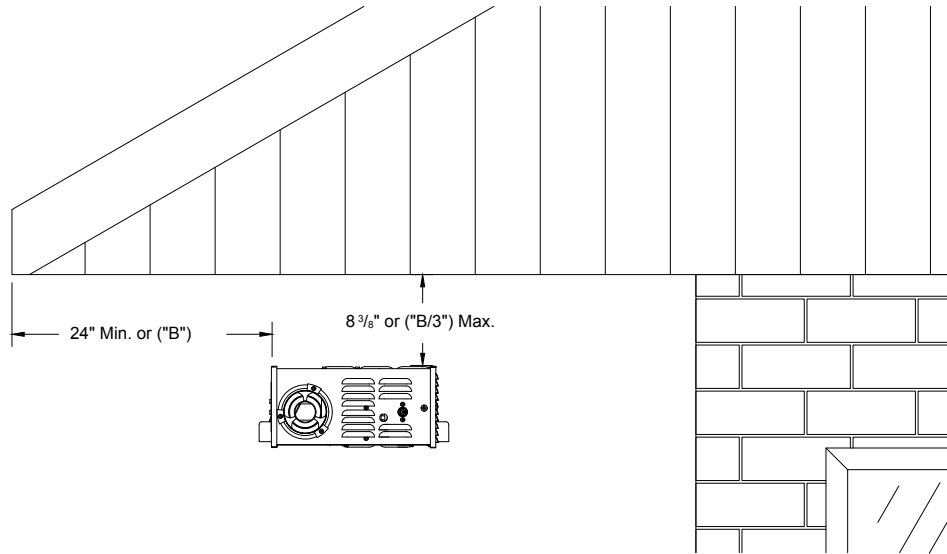
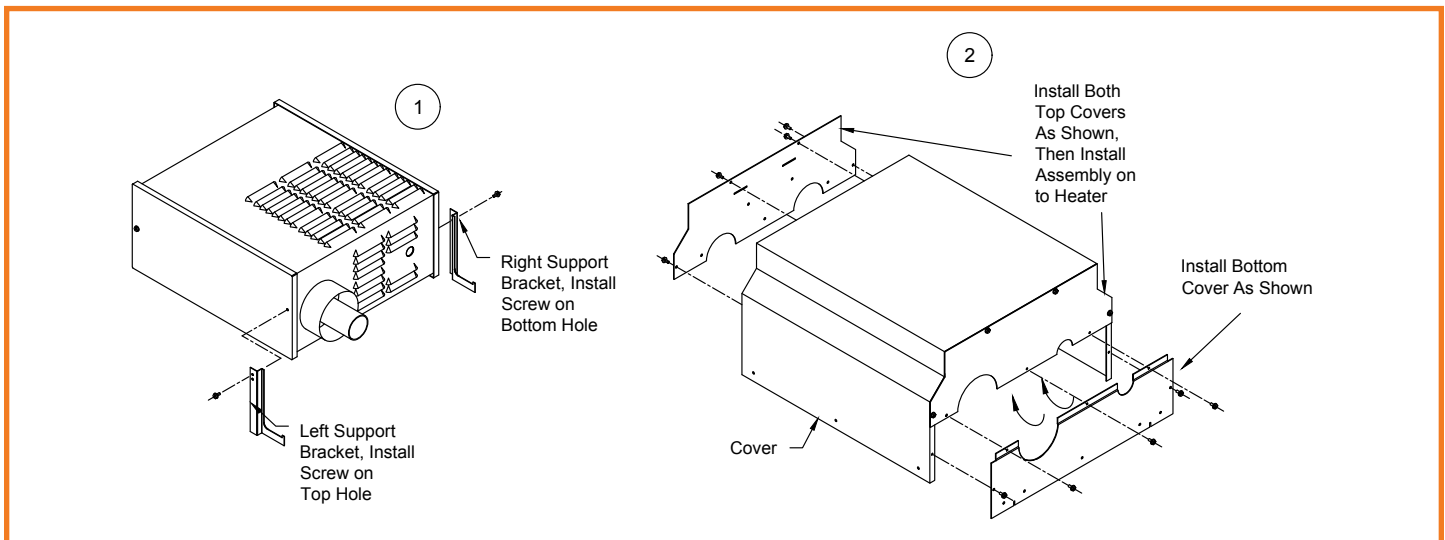
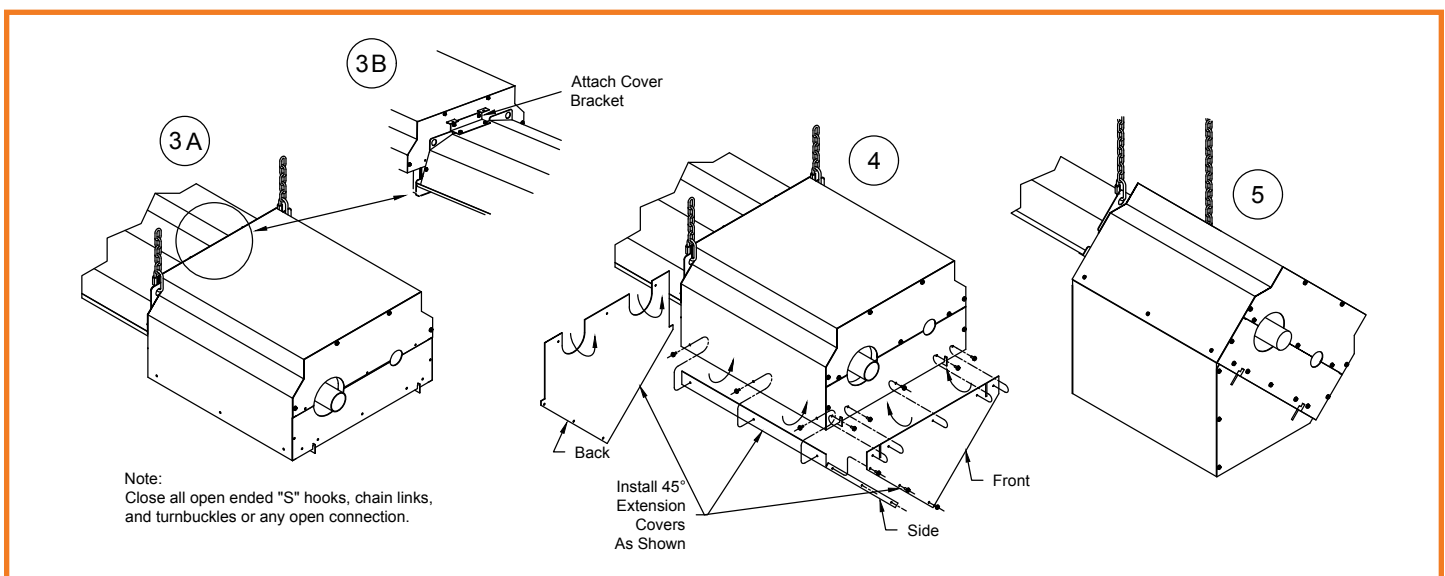
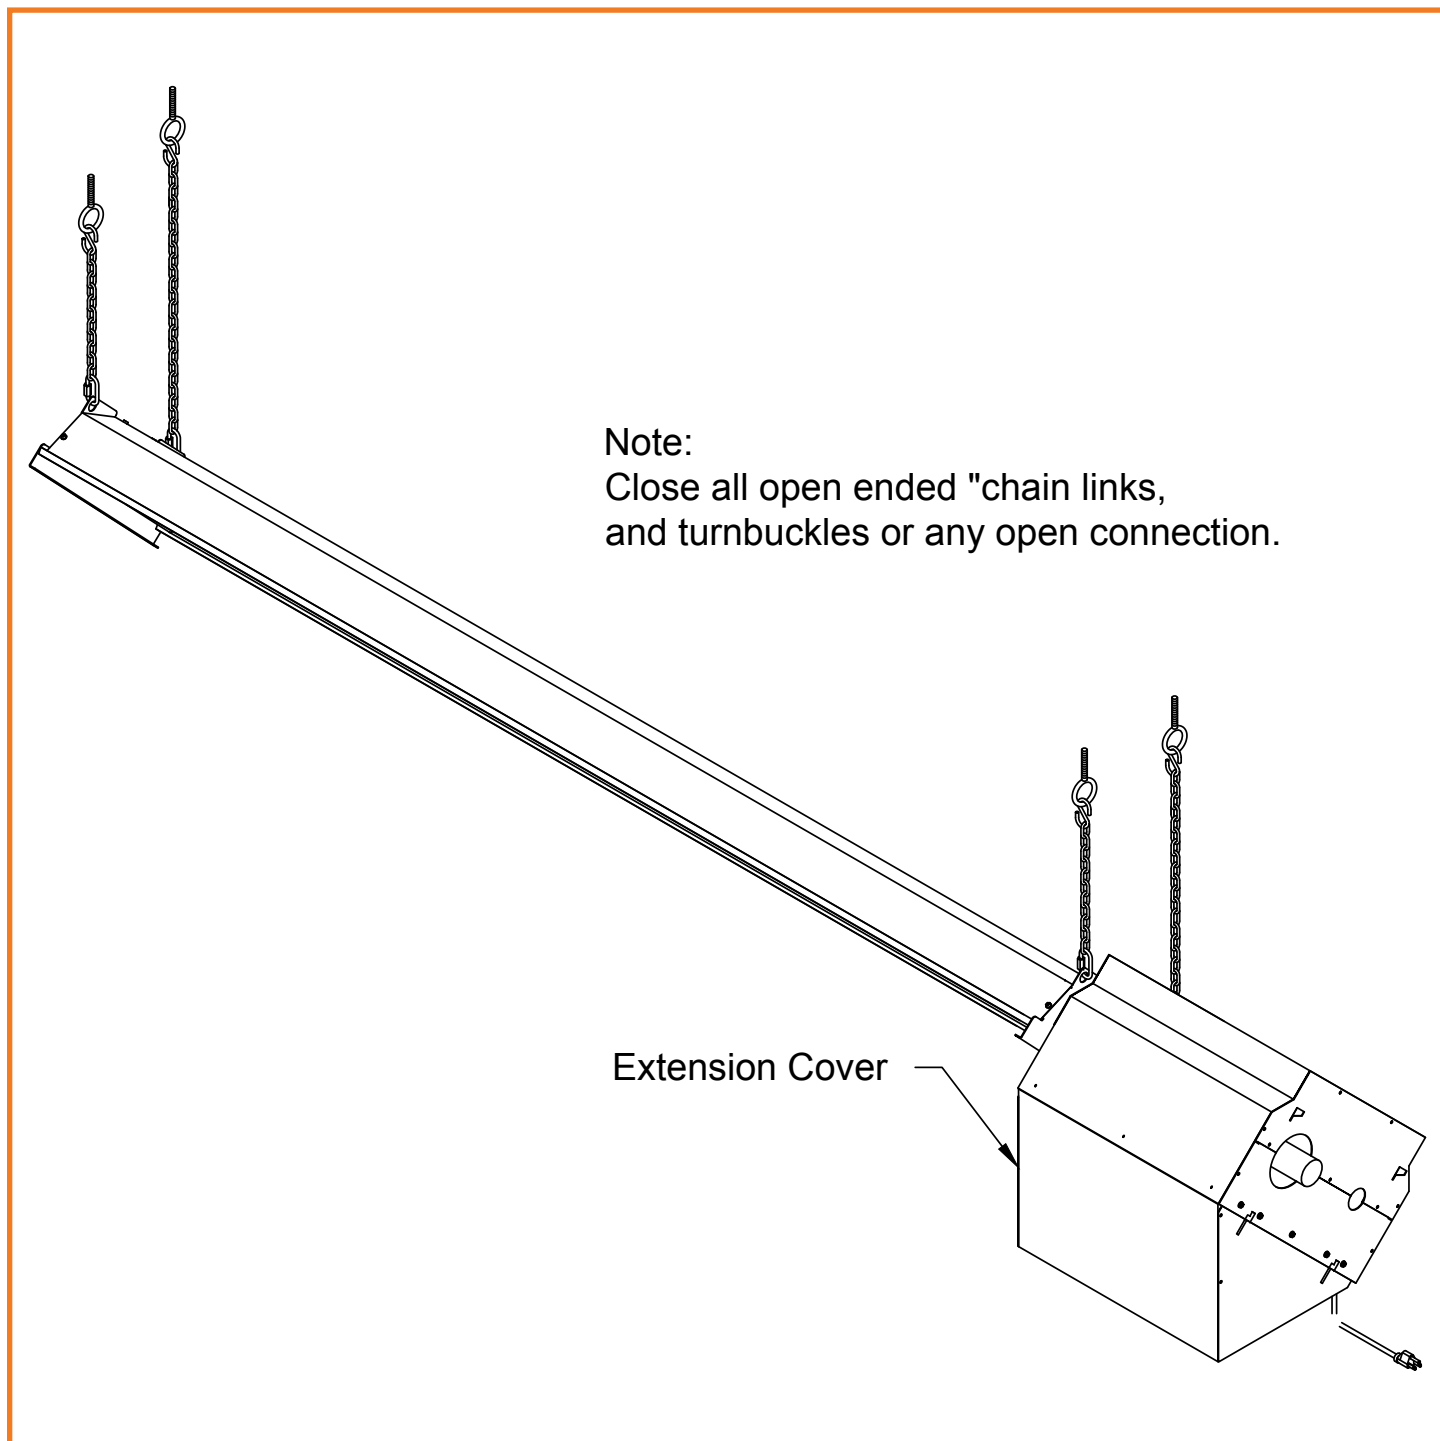

Figure 4: Mounting Distances for Outdoor Installations under Eaves
Figure 6: Cover Installation Sequence Steps 1 and 2
Figure 7: Cover Installation Sequence Steps 3 to 5
Figure 8: Extension Cover for 45° Outdoor Installations
For outdoor installations the heater must be installed not more than 8" from beneath awnings, and not less than 24" from back and side as shown in Figure 4. If the heater cannot be protected from the elements by an overhang, then a protective cover must be installed as shown in Figure 6, Figure 7 and Figure 8.
1. Install support brackets on to heater covers as shown in step 1 in Figure 6.
2. Preassembled the cover and its top covers and bottom cover as shown in step 2 in Figure 6.
5. Secure cover to heater by screwing in the cover bracket in step 3B in Figure 7.
6. Install the extension covers (Front, Back, and Side) as shown in step 4 in Figure 7 if needed
When a heater is to be installed outdoors at 45° without the presence of an adequate eave, an extension cover must be used to protect the heater, refer to step 4 in Figure 7. This extension cover is available through your local Dealer (Part # R-RS021). Note that both the cover and extension cover must be used in this case (refer to Figure 8 for completed assembly)..